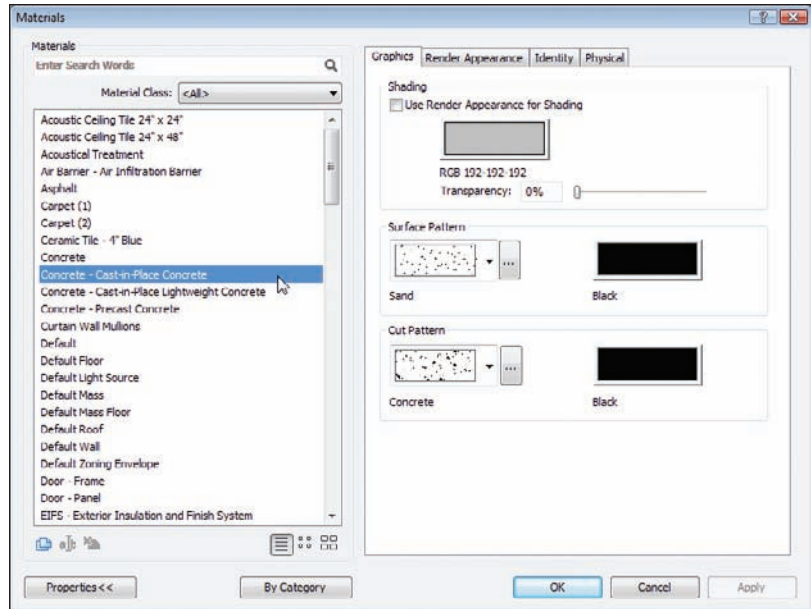

FIGURE 6.7 The Materials menu
3. You can now choose a material from the menu. Scroll down until you arrive at Concrete - Cast-in-Place Concrete, and select it. Notice that to the right you can see that this material will display two different hatches. There is a sand hatch that will be visible for floor plans, and a concrete hatch that is visible for sections (see Figure 6.7). These hatches allow a filling region to graphically designate specific materials.